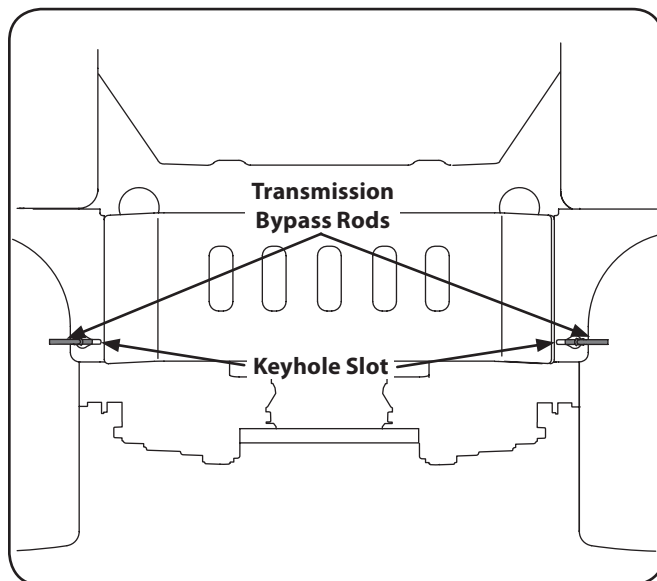

Figure 3-1
4. Engage the transmission bypass rods on each side of the tractor; then carefully roll the tractor off the shipping pallet. The transmission bypass rods (one for each the RH and LH transmission) are located on the rear of the tractor, just inside each rear wheel. Disengage the bypass rods. See Fig. 3-1.